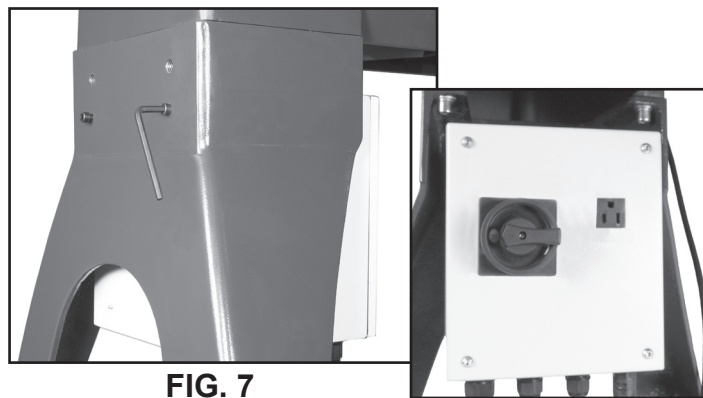

FIG. 7
5. Attach the Inverter Box Assembly (A) to the inside of the left leg under the headstock with the 2 bolts (J) and 5mm hex wrench provided. Fig. 7.